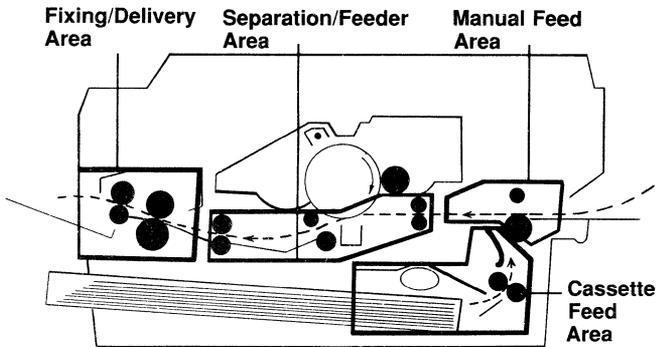

Figure 2: Paper Path
Paper in the printer passes through four main areas (Figure 2): (1) the manual feed area, (2) the cassette feed area, (3) the separation/feeder area, and (4) the fixing/delivery area.